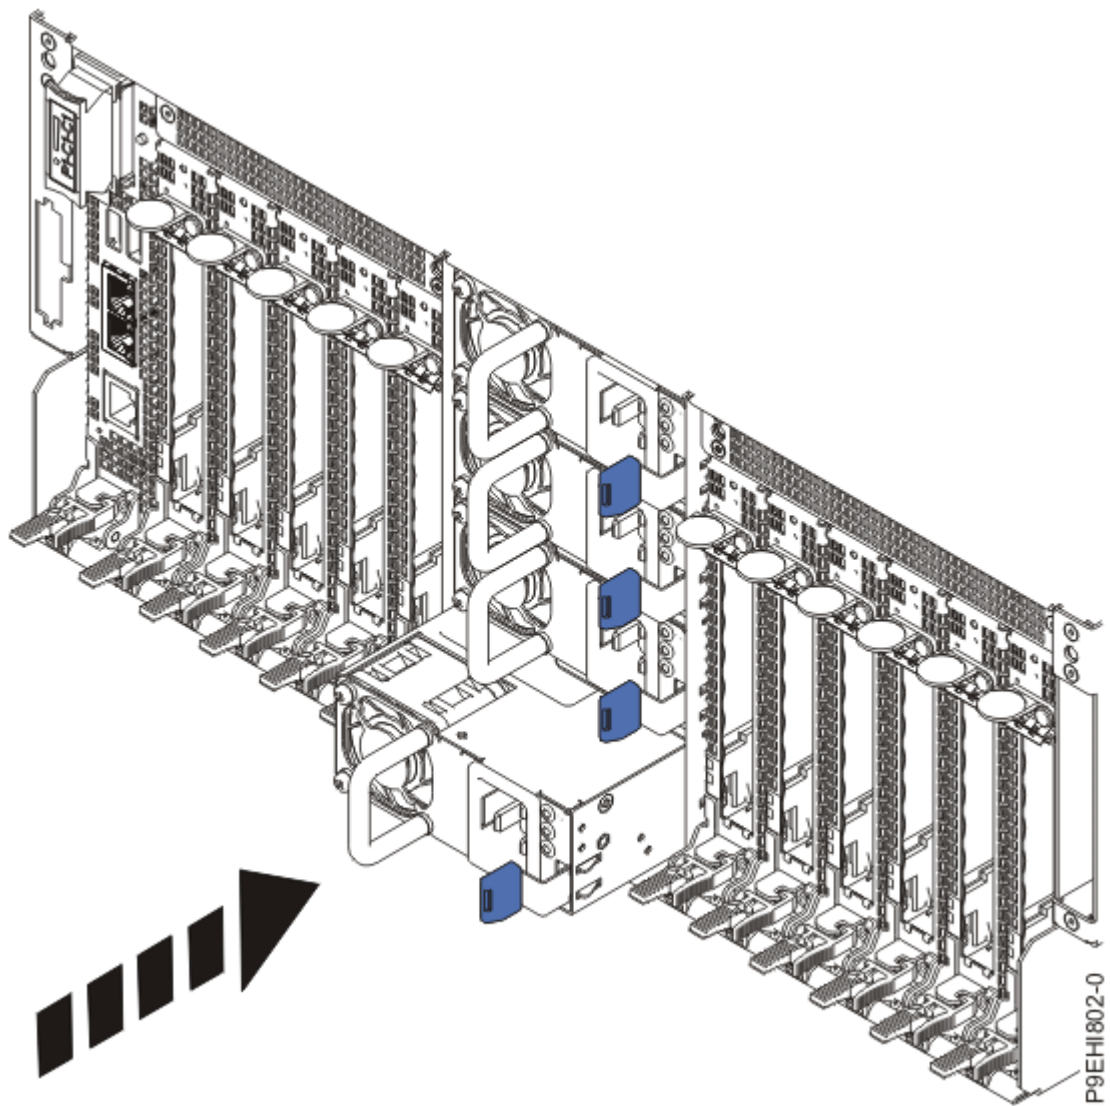

Figure 29. Replacing a power supply in the system
3. Align the power supply with the bay and slide the power supply into the system until the latch locks in place, as shown in Figure 29 on page 30.